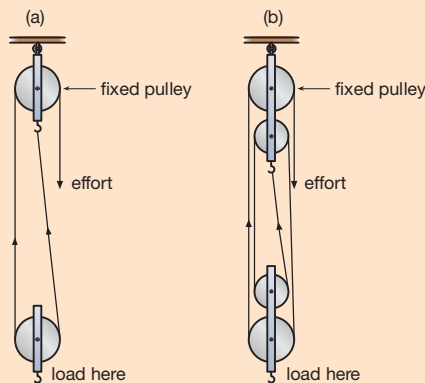

Figure 5.40 Using (a) two, and (b) four pulleys to raise a load
- Arrange the pulley blocks as shown in Figure 5.40. Attach a forcemeter to measure the effort. Place a known weight on the lower block. Pull the forcemeter downwards so that the load rises slowly at a uniform speed. Note the steady reading. Repeat and take the average reading. Table 5.3 shows how to record your results.